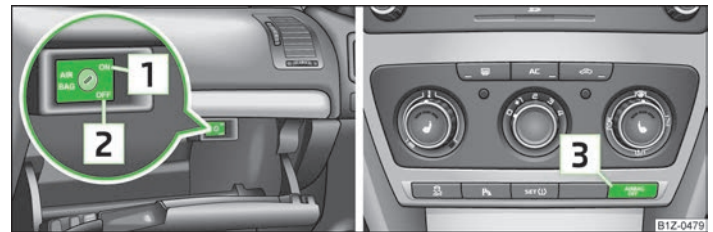

Fig. 120 Storage compartment: Key-operated switch for the front passenger airbag/warning light for front seat passenger airbag deactivation
- The deactivated airbag is indicated by the illumination of the warning light AIRBAG OFF in the middle of the dash panel » Fig. 120 on page 133 3.
- Use the key to turn the slot of the key switch into position 2 » Fig. 120 OFF. ▶
- › Use the key to turn the slot of the key switch into position **1** » Fig. 120 **ON**.